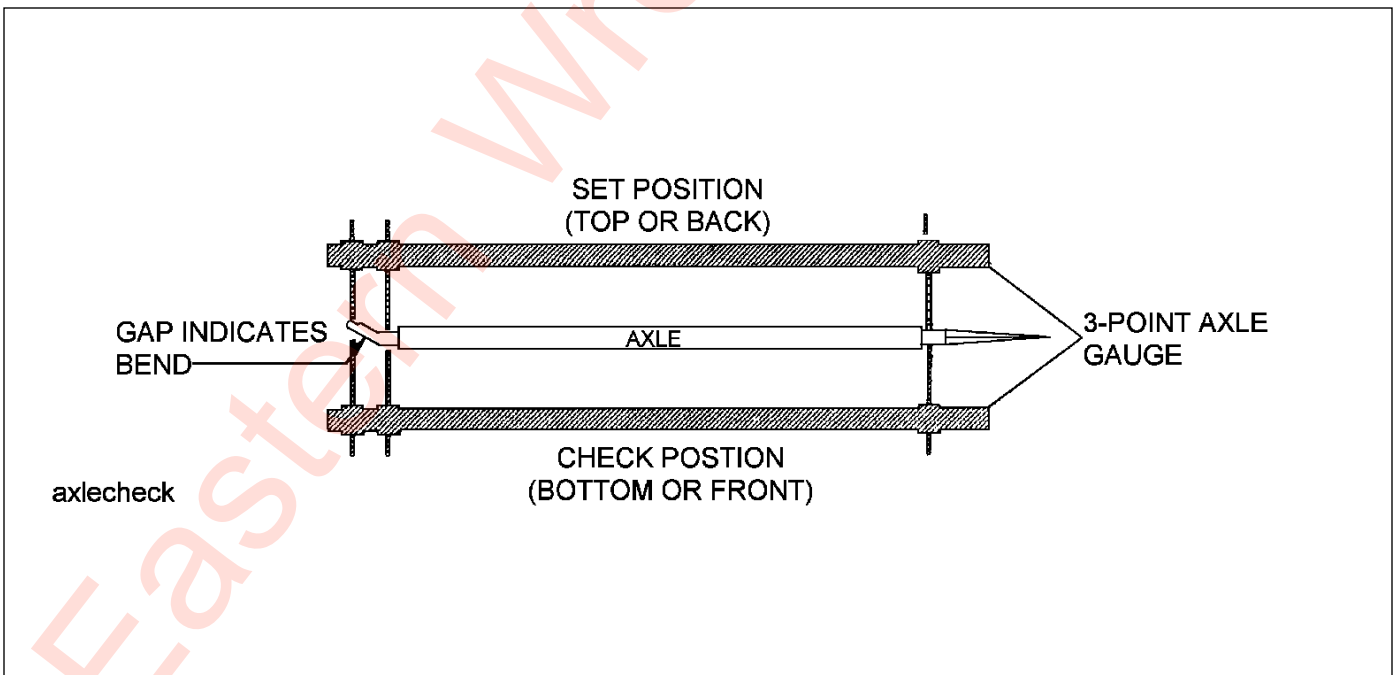

Figure 4-6: Checking Axle for Bend
2. Place a 3-point axle gauge against the front side of the axle, and adjust each axle gauge point to the axle. (Double point end against the inner and outer wheel bearing surfaces of the spindle being checked and the other point on the inner bearing surface on the other spindle.)(See Figure 4-6.)